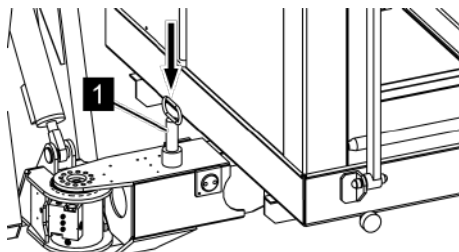

Fig. 111: Inserting the fastening bolts
7. ➔ Push the fastening bolts in (Fig. 111/1) completely. Make sure that the working basket can no longer be pulled out of the bracket.